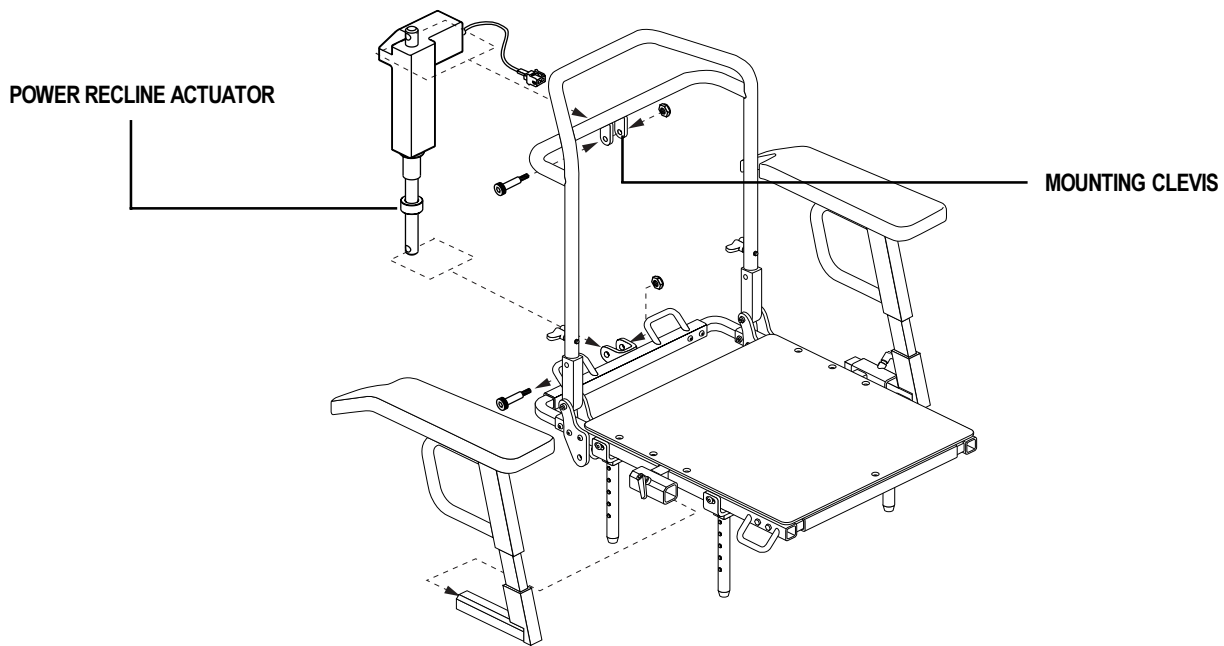

Figure 2. Power Recline Actuator Installation
1. Install the power recline actuator with the motor on top and facing to the right as shown in figure 2.